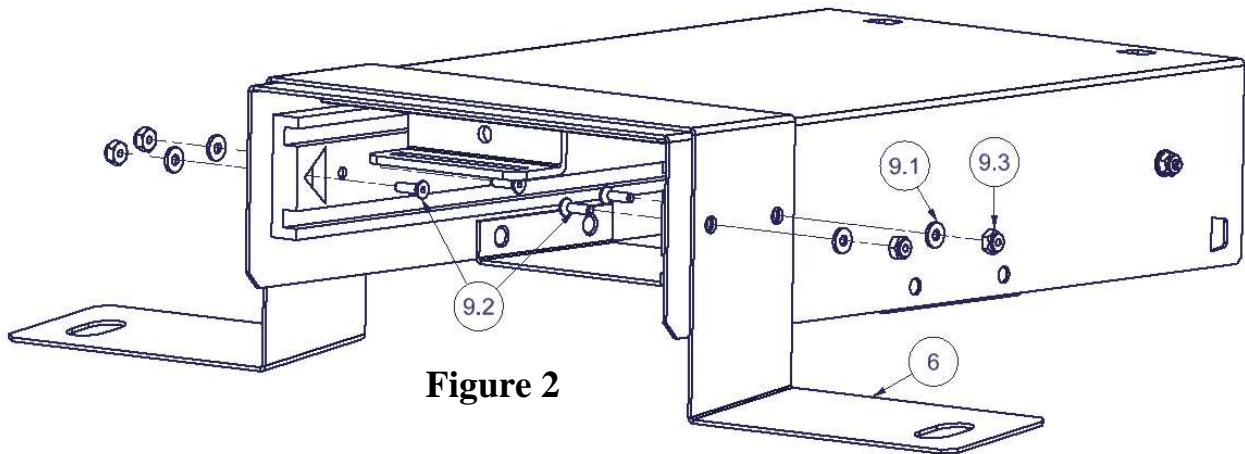

Figure 2
3. Remove the two forward #9.2 Screws from the enclosure.(Figure 2)
4. Slip the #6 Mounting bracket over the enclosure with the long side toward the front of the enclosure, and secure in place with 4) #9.2 Screws, #9.1 Washers, and #9.3 Nylock Nuts(Figure 2) **Note:**2 of each piece of hardware were removed in Step #3, and 2 more are located in the Key Bag.